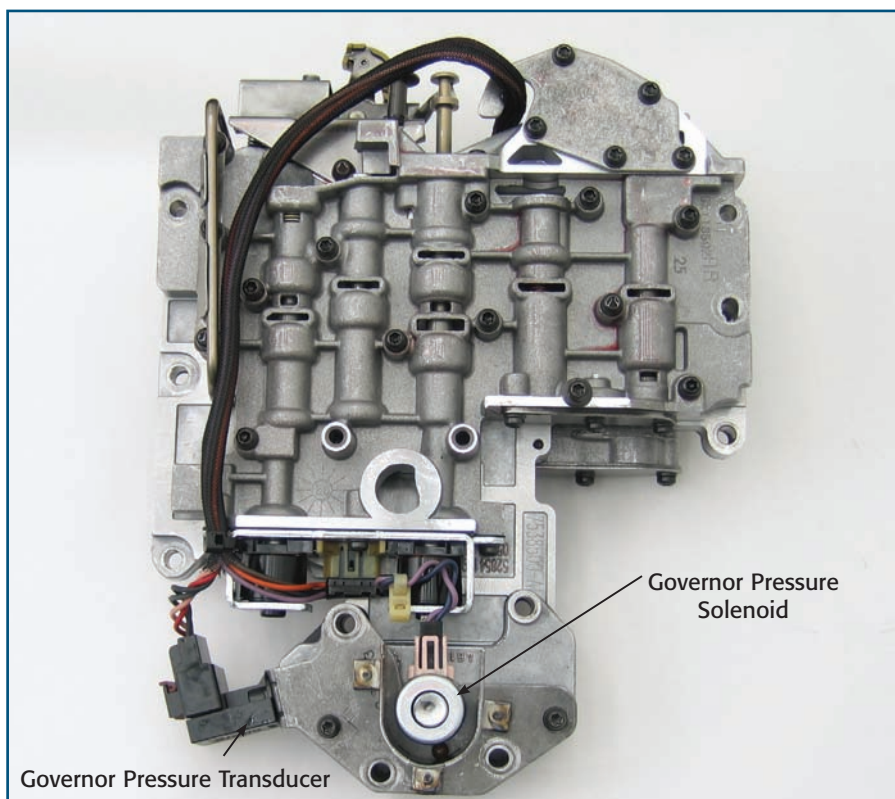

Figure 3
2. Governor solenoid (figure 3) — controls governor pressure to the shift valves. The computer controls governor position by sending a duty cycled signal to the solenoid. The higher the duty cycle, the lower governor pressure will be. When the governor solenoid is turned off, governor
3. Governor pressure transducer (figure 3) — provides a governor pressure feedback signal to the computer. The computer uses the transducer signal to monitor and adjust governor pressure.